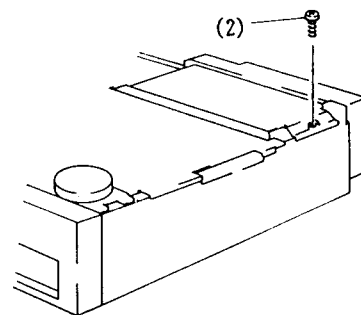

Fig. 4-8 Regulator Circuit Block(I)
6. Regulator Circuit Board (Figs. 4-8 to 4-10)